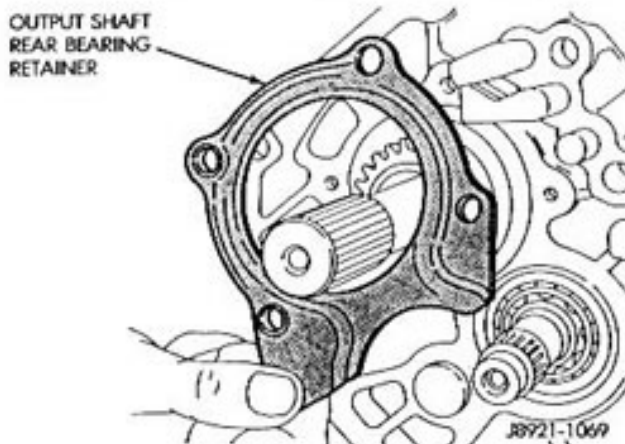

Fig. 39 Removing Output Shaft Rear Bearing Retainer
(20) Remove the rear bearing retainer (Fig. 39).